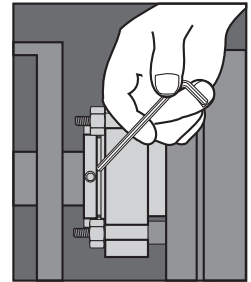

Figure 8
- 2.9 With the impeller, shaft, coupling and bearings in their final operating positions, tighten the drive collar set screws. See Figure 8.